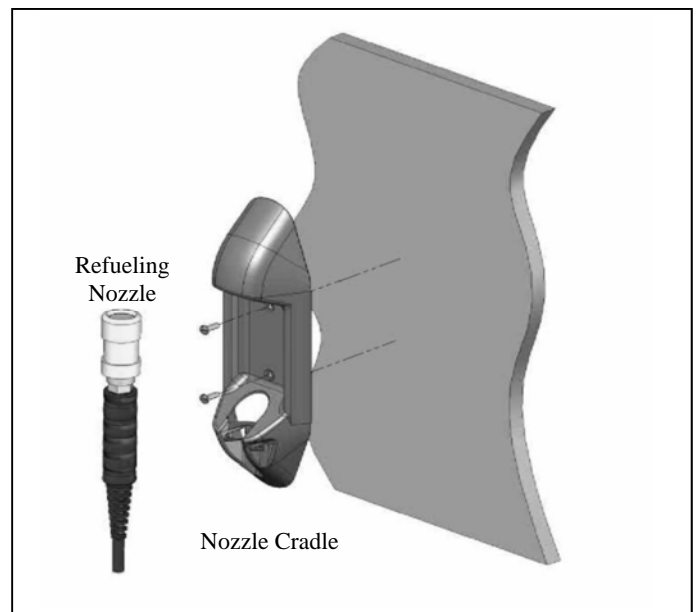

Figure 6 Nozzle Cradle
2. Use the template provided to establish and mark correct position of nozzle cradle mounting screw holes. Remove the template and drill the holes. Fasten the nozzle cradle to mounting surface using appropriate hardware (see Figure 6). Fit the nozzle into cradle assembly. If required use padlock or pin to hold nozzle securely in cradle.